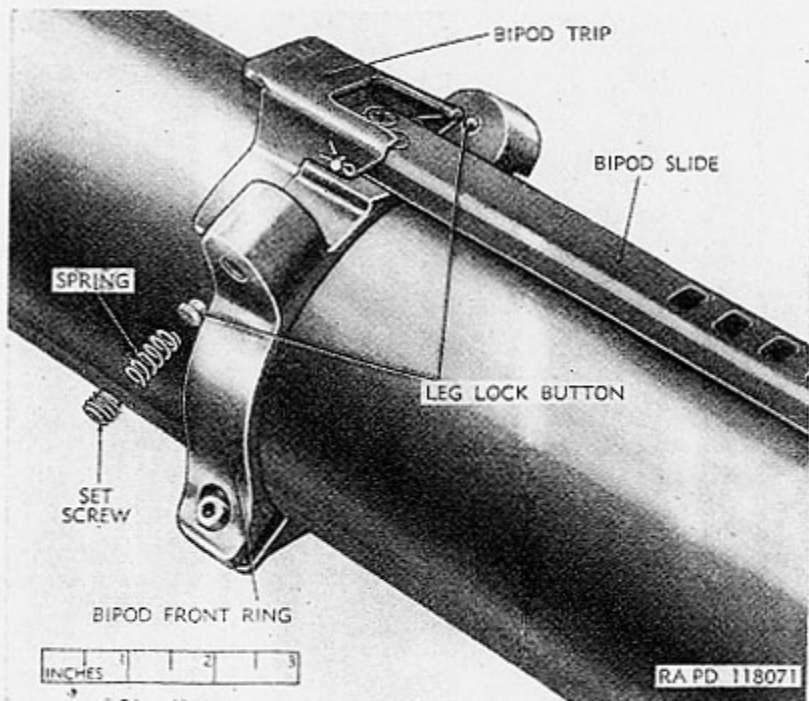

Figure 21. Leg lock button parts exploded.
- (1) To remove the leg lock buttons from the bipod front ring, unscrew the set screw which retains each leg lock button and its spring in the recess in the front ring. Withdraw the spring and leg lock button.
- (2) To install the leg lock buttons in the bipod front ring, replace each button in its recess (spherical end first). Insert the spring, screw the retaining set screw in place and tighten it. The end of the tapped thread for the set screw provides a stop so that tightening the set screw will lock it in place.
b. **BIPOD TRIP** (figs. 21 and 22). The bipod trip pivots on a trip pin in the bipod slide and has two trip springs.